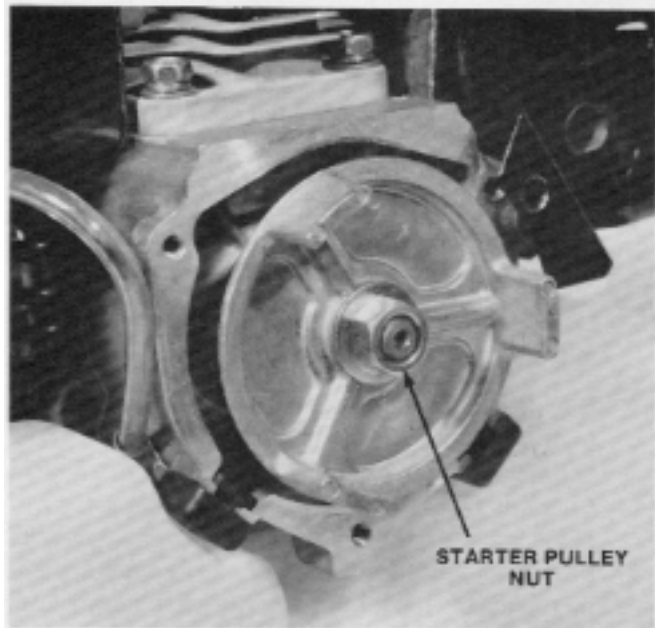

Figure 73
2. Remove the starter pulley nut by turning it counterclockwise. See Figure 73.